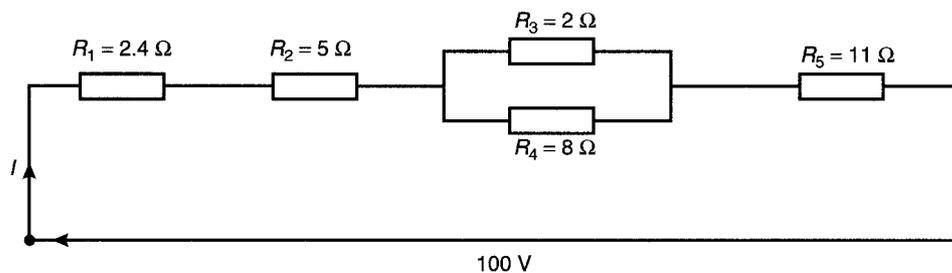

Figure A2.1
- Resistances of $5\ \Omega$, $7\ \Omega$, and $8\ \Omega$ are connected in series. If a $10\ \text{V}$ supply voltage is connected across the arrangement determine the current flowing through and the p.d. across the $7\ \Omega$ resistor. Calculate also the power dissipated in the $8\ \Omega$ resistor. (6)
- For the series-parallel network shown in Fig. A2.1, find (a) the supply current, (b) the current flowing through each resistor, (c) the p.d. across each resistor, (d) the total power dissipated in the circuit, (e) the cost of energy if the circuit is connected for 80 hours. Assume electrical energy costs 7.2p per unit. (15)
- The charge on the plates of a capacitor is $8\ \text{mC}$ when the potential between them is $4\ \text{kV}$. Determine the capacitance of the capacitor. (2)
- Two parallel rectangular plates measuring $80\ \text{mm}$ by $120\ \text{mm}$ are separated by $4\ \text{mm}$ of mica and carry an electric charge of $0.48\ \mu\text{C}$. The voltage between the plates is $500\ \text{V}$. Calculate (a) the electric flux density (b) the electric field strength, and (c) the capacitance of the capacitor, in picofarads, if the relative permittivity of mica is 5. (7)
- A $4\ \mu\text{F}$ capacitor is connected in parallel with a $6\ \mu\text{F}$ capacitor. This arrangement is then connected in series with a $10\ \mu\text{F}$ capacitor. A supply p.d. of $250\ \text{V}$ is connected across the circuit. Find (a) the equivalent capacitance of the circuit, (b) the voltage across the $10\ \mu\text{F}$ capacitor, and (c) the charge on each capacitor. (7)
- A coil of 600 turns is wound uniformly on a ring of non-magnetic material. The ring has a uniform cross-sectional area of $200\ \text{mm}^2$ and a mean circumference of $500\ \text{mm}$. If the current in the coil is $4\ \text{A}$, determine (a) the magnetic field strength, (b) the flux density, and (c) the total magnetic flux in the ring. (5)
- A mild steel ring of cross-sectional area $4\ \text{cm}^2$ has a radial air-gap of $3\ \text{mm}$ cut into it. If the mean length of the mild steel path is $300\ \text{mm}$, calculate the magnetomotive force to produce a flux of $0.48\ \text{mWb}$. (Use the B-H curve on page 71) (8)